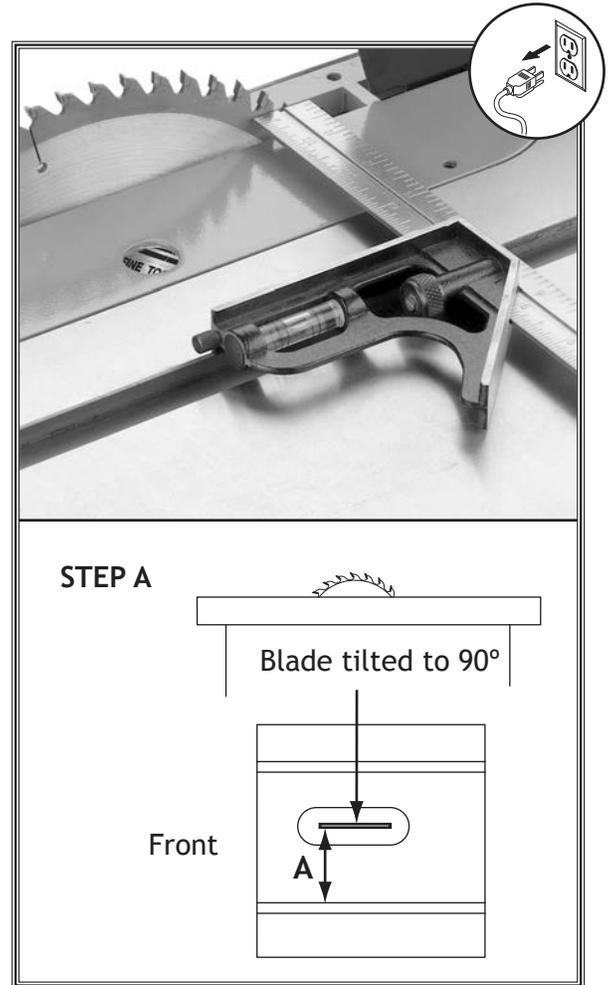

Figure 106. Making first slot-to-blade measurement at 90°.
2. Tilt blade to 0°, then use an adjustable square to measure distance from miter slot to a carbide tip on blade, as shown in **Figure 106**. Make sure that face of adjustable square is even along miter slot.